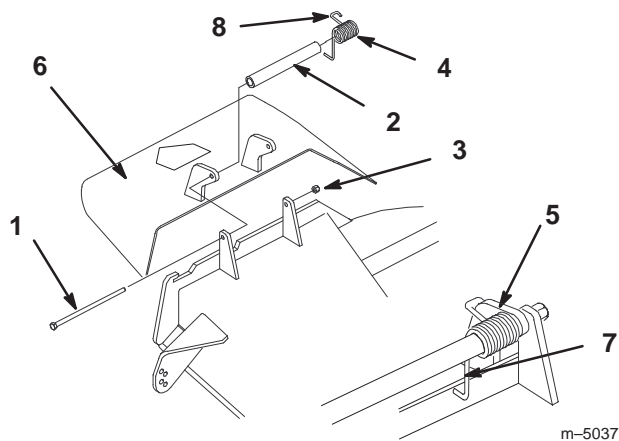

Figure 68
1. Remove the locknut, bolt, spring and spacer holding the deflector to the pivot brackets (Fig. 68). Remove damaged or worn grass deflector.
Note: Make sure the L end of spring is installed behind deck edge before installing the bolt as shown in figure 68.
3. Install bolt and nut. Place J hook end of spring around grass deflector (Fig. 68).